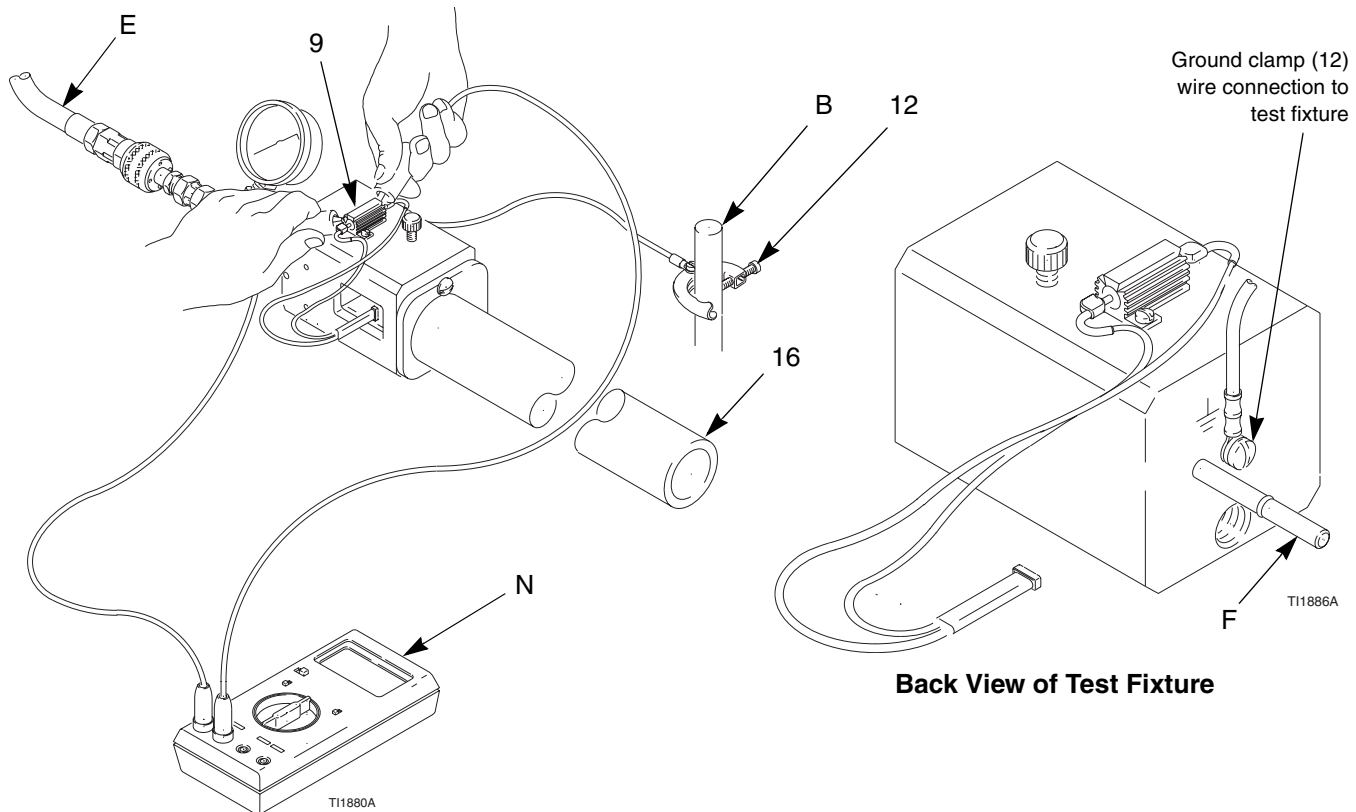

Fig. 4. Testing the Turbine Alternator
7. Connect the fixture's grounding clamp (12) to a true earth ground (B). See Fig. 4.
8. Connect an air line (E) to the fixture. Set the air pressure to 26 psi (1.8 bar, 0.18 MPa).
9. Measure the turbine alternator AC voltage output with a voltmeter (N), measuring across the fixture terminals (9) as shown in Fig. 4.